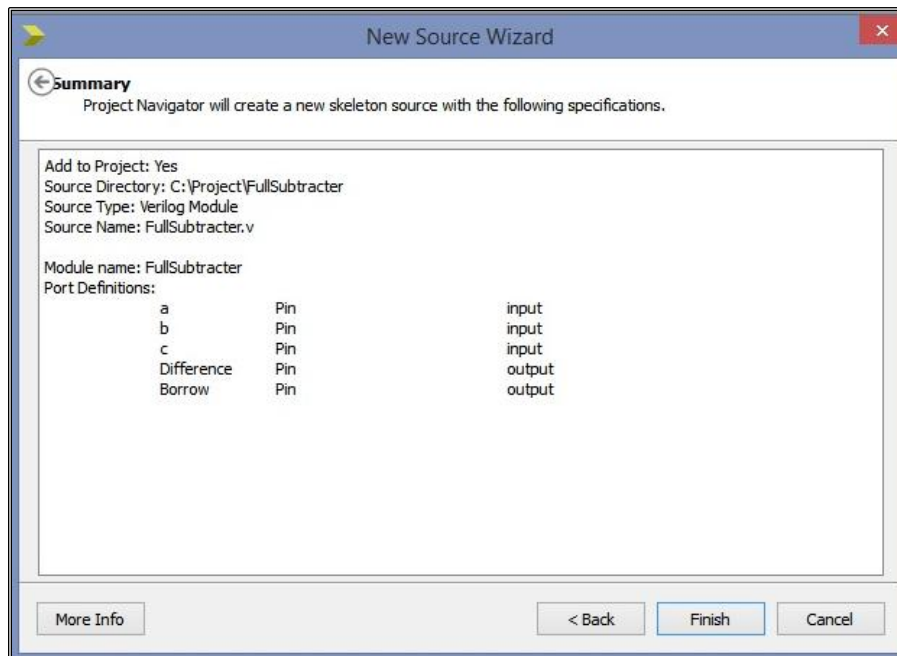

Fig 4.4: Source Summary
7. Next the summary description of the module will be displayed (Fig 4.4). Check the source **summary** and click **Finish**.